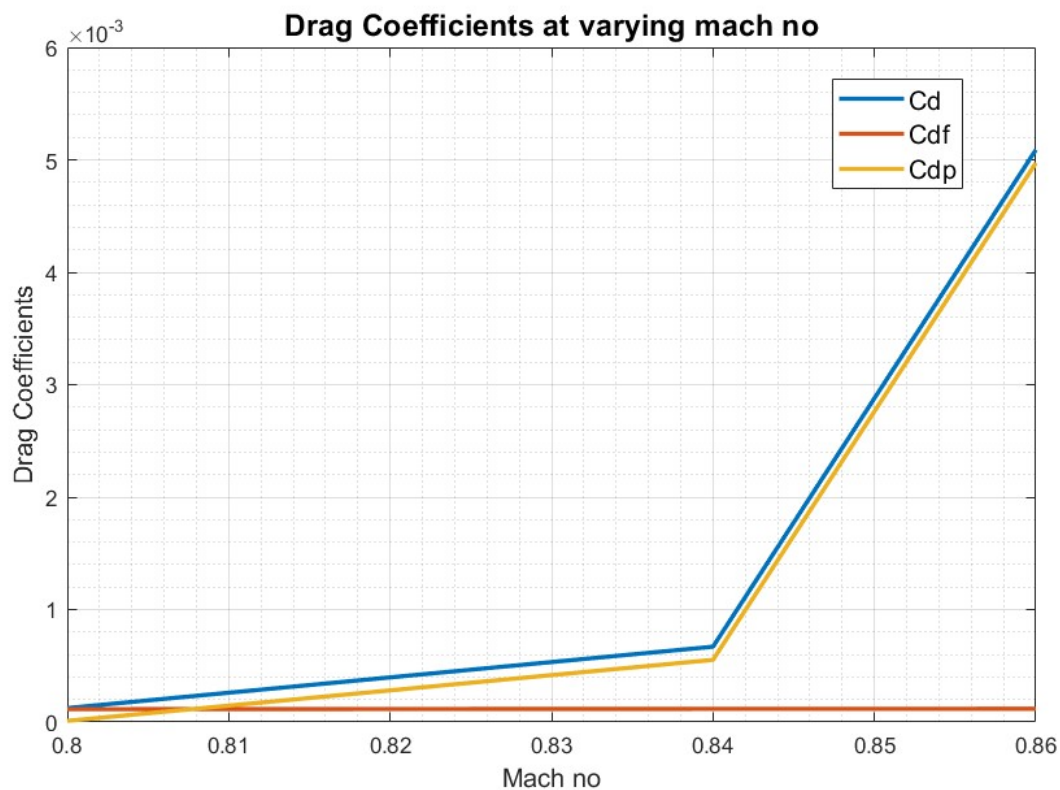

Fig:11 – Drag Coefficients plot at varying Mach no
- Fig 11 shows the Drag coefficients plot at varying Ma for the BLC coupled TSD code.